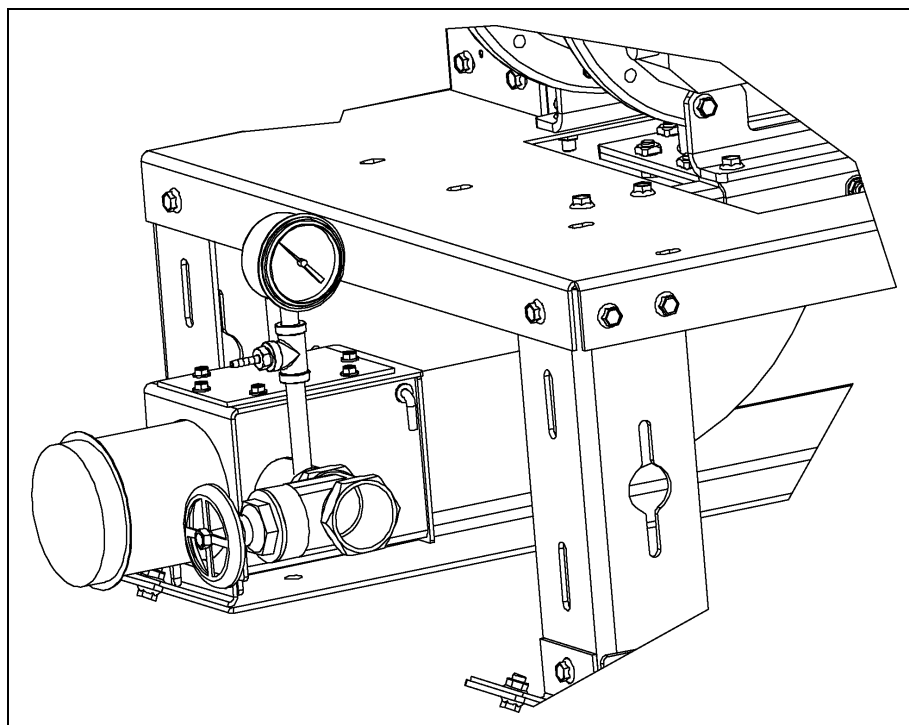

Figure 7L
10. Remove 1/4" pipe plug in gate valve pipe. Install gauge assembly and attach air hose. (See Figure 7L.)